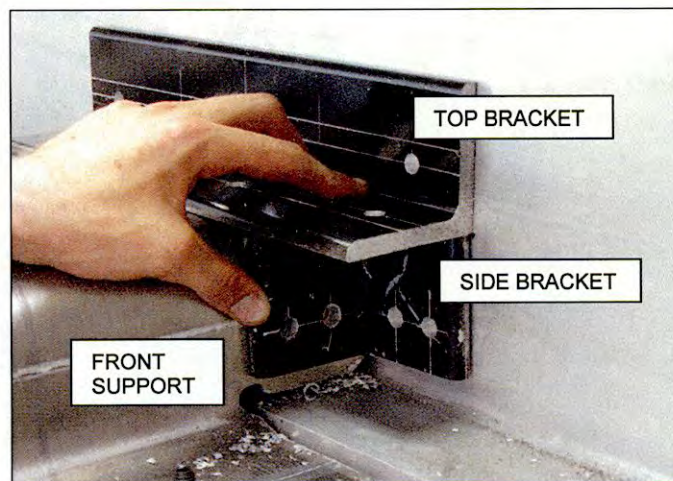

Figure 14
14. See figure 14 on the next page to attach the brackets to the top of the front support and the beam. Place the new top bracket on top of the front support with approximately equal amounts of the bracket extending over the sides. Do not fasten the top bracket; the bracket is being located only to give the side brackets something to butt up against.
18. Attach the front support top brackets to the beam as shown in Figure 14 below. Center the brackets on the front supports, drill through the existing bracket holes with an 'X' bit, and secure with $3/8-10$ Huckbolts. There are also two holes in the beam behind each bracket that were used for the original brackets. Drill through these holes and through the new brackets and